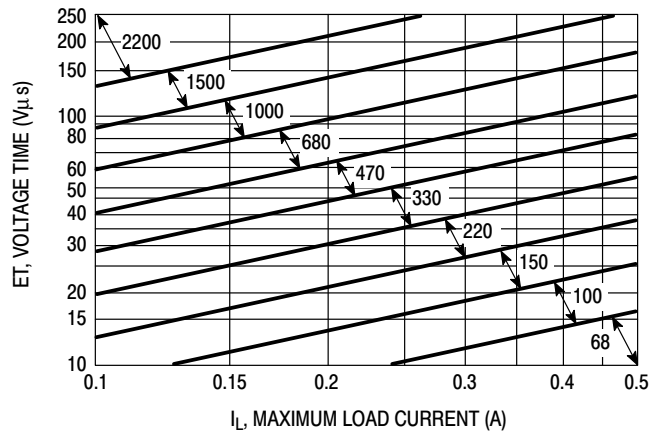

Figure 23. LM2574-ADJ
4. Inductor Selection (L₁) A. Use the following formula to calculate the inductor Volt x microsecond [V x μs] constant: $E \times T = (V_{in} - V_{out}) \times \frac{V_{out}}{V_{in}} \times \frac{10^6}{F[Hz]} [V \times \mu s]$ B. Match the calculated E x T value with the corresponding number on the vertical axis of the Inductor Value Selection Guide shown in Figure 23. This E x T constant is a measure of the energy handling capability of an inductor and is dependent upon the type of core, the core area, the number of turns, and the duty cycle. C. Next step is to identify the inductance region intersected by the E x T value and the maximum load current value on the horizontal axis shown in Figure 27. D. From the inductor code, identify the inductor value. Then select an appropriate inductor from Table 2. The inductor chosen must be rated for a switching frequency of 52 kHz and for a current rating of 1.15 x I_{Load}. The inductor current rating can also be determined by calculating the inductor peak current: $I_{p(max)} = I_{Load(max)} + \frac{(V_{in} - V_{out})t_{on}}{2L}$ where t_{on} is the "on" time of the power switch and $t_{on} = \frac{V_{out}}{V_{in}} \times \frac{1.0}{f_{osc}}$ For additional information about the inductor, see the inductor section in the "External Components" section of this data sheet.	4. Inductor Selection (L₁) A. Calculate E x T [V x μs] constant : $E \times T = (40 - 24) \times \frac{24}{40} \times \frac{1000}{52} = 105 [V \times \mu s]$ B. E x T = 185 [V x μs] C. I_{Load(max)} = 0.4 A Inductance Region = 1000 D. Proper inductor value = 1000 μH Choose the inductor from Table 2.